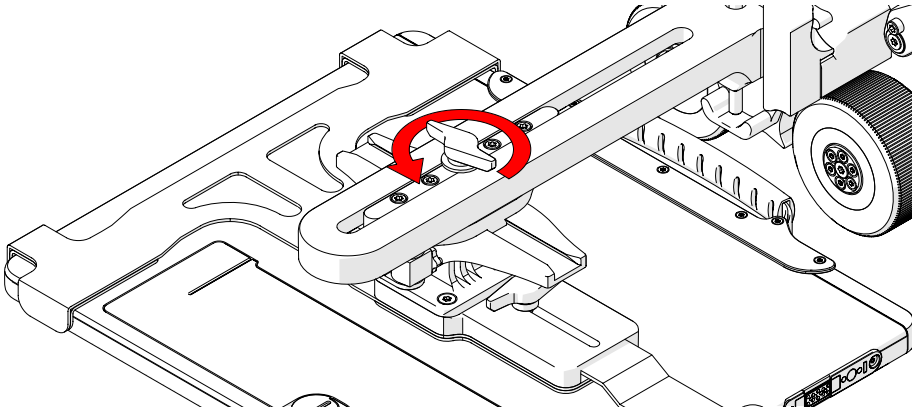

Fig. 53 - Loosen wing knob
1. Loosen the wing knob to allow for movement of the detector (*Fig. 53*).